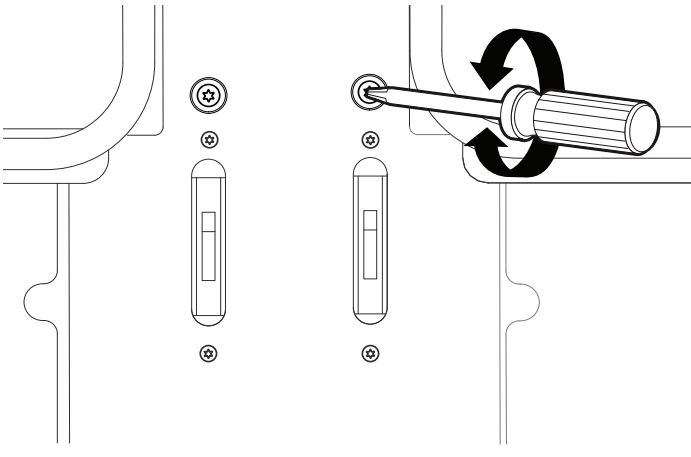

Figure 11: Hinge Receiver Adjustment Screw
- If door or handle appears slightly tilted, you may adjust the hinge receiver by rotating the large Torx-head screw located directly above the hinge receiver with a T-20 Torx driver. Rotate each screw respectively to its side and direction the door needs to be adjusted (Figure 11).